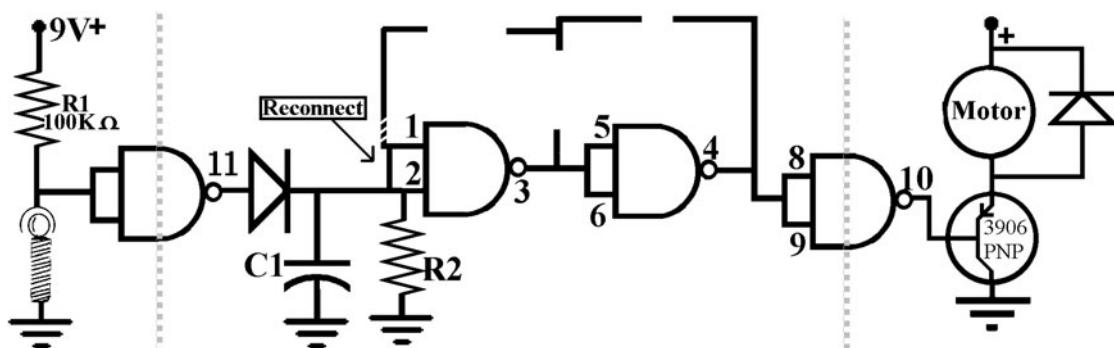

Figure L34-36
This one proves that other familiar toys are no great works of genius, just great works of marketing. A picture is shown in Figure L34-34. The special motor setup for creating the jiggle is shown in Figure L34-35. The related schematic is displayed in Figure L34-36 (also see Table L34-8).
**TABLE L34-8** Related to Schematic Displayed in Figure L34-36